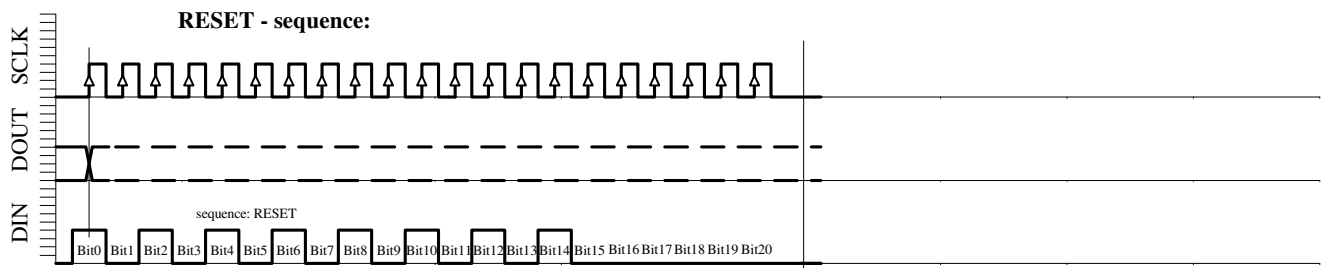

Fig. 6e: RESET sequence (21 bit)
- RESET sequence (Figure 6e)
The RESET sequence is special as the module in any state recognizes its unique pattern. By consequence, it can be used to restart if synchronization between the microcontroller and the MS5541-30C has been lost. This sequence is 21-bit long. The DOUT signal might change during that sequence (see Fig. 6e). It is recommended to send the RESET sequence before each CONVERSION sequence to avoid hanging up the protocol permanently in case of electrical interference.